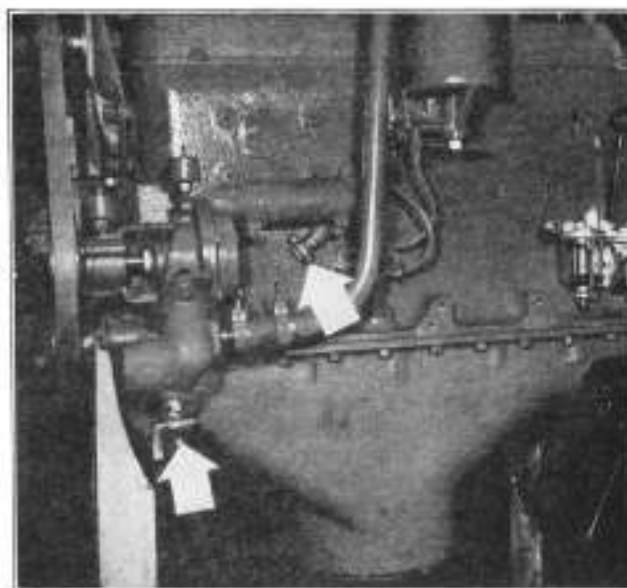

Figure 8, Cooling System Drain Cocks
(1) Draining the Cooling System (fig. 8). Drain cocks are located at the lowest points of